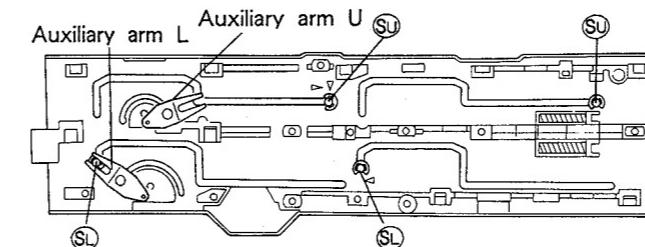

Fig. 3-1
1. Set shaft  $\textcircled{S}_U$  of slide-angle U unit, shaft  $\textcircled{S}_L$  of slide-angle L unit, auxiliary arm U, and auxiliary arm L to the positions shown in Fig. 3-1.